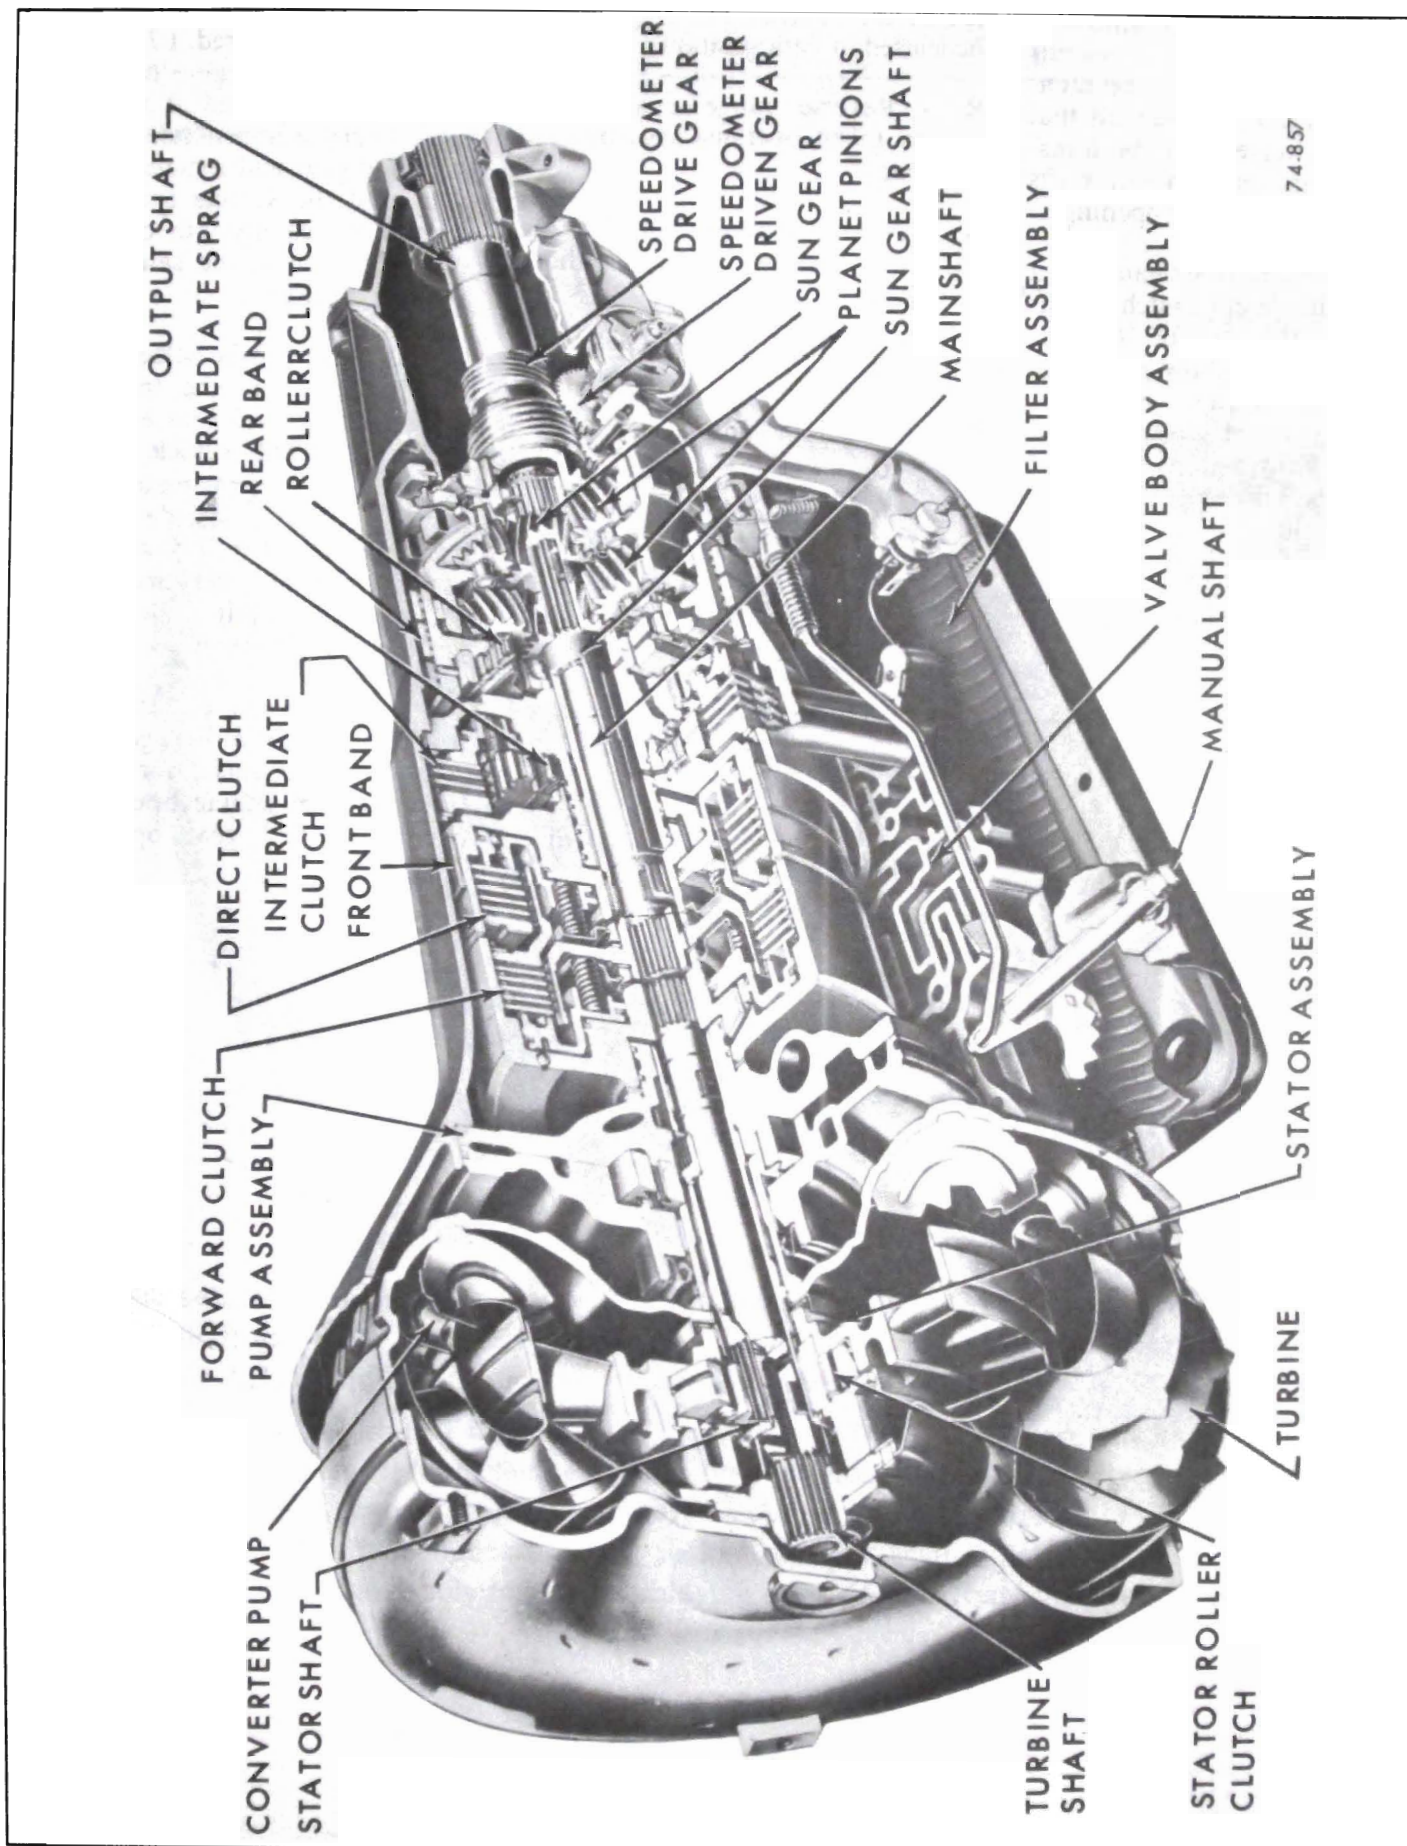

Figure 76-202 - Cross Section of Transmission
The Turbo Hydra-matic 400 Automatic Transmission, see Figure 76-202, is a fully automatic unit consisting primarily of a 3-element hydraulic torque converter and a compound planetary gear set. Three multiple-disc clutches, one (1) one way roller clutch, one (1) one way sprag clutch and two bands provide the friction elements required to obtain the desired function of the compound planetary gear set.